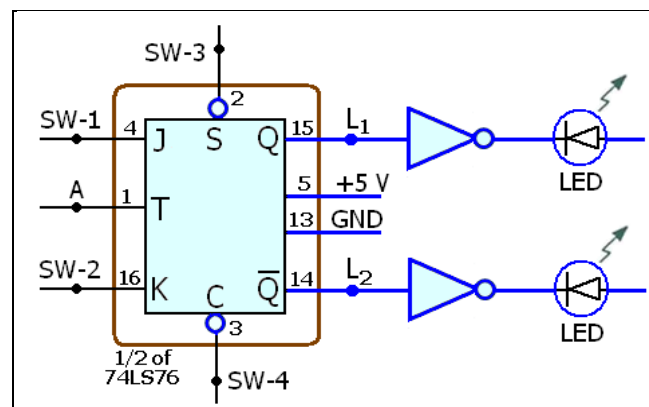

Fig. 1-1 Schematic Diagram of JK-Flip/Flop
1. Connect the circuit shown in Fig. 1-1 using data switches for the J, K, S, and C inputs, logic switch A for the clock T input.